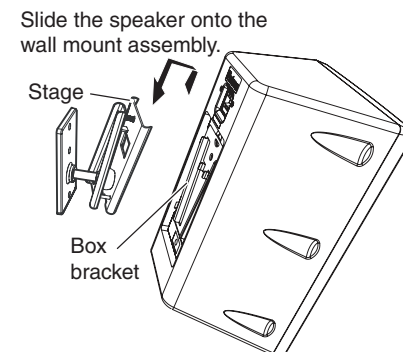

Figure 7 — Install speaker onto the wall mount assembly
9. Remove the cover from the back of a speaker and carefully slide the speaker box bracket down into the V lock groove until it locks into place (see figure 7).